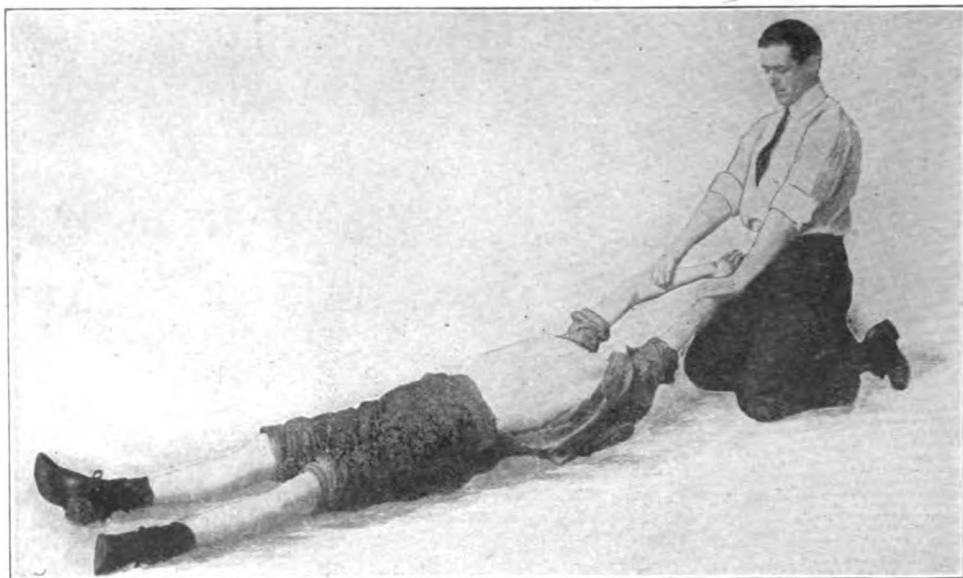

Fig. 8--Third Movement in Artificial Respiration
3. While you have the patient's arms stretched out in line with his body, give them a slow, strong pull, until you have expanded or raised his chest as high as it will go, as shown in Fig. 8; then
strong pull is given, as shown in Fig. 8; and "four," when the arms are again being bent and returned to the sides, as shown in Fig. 9.